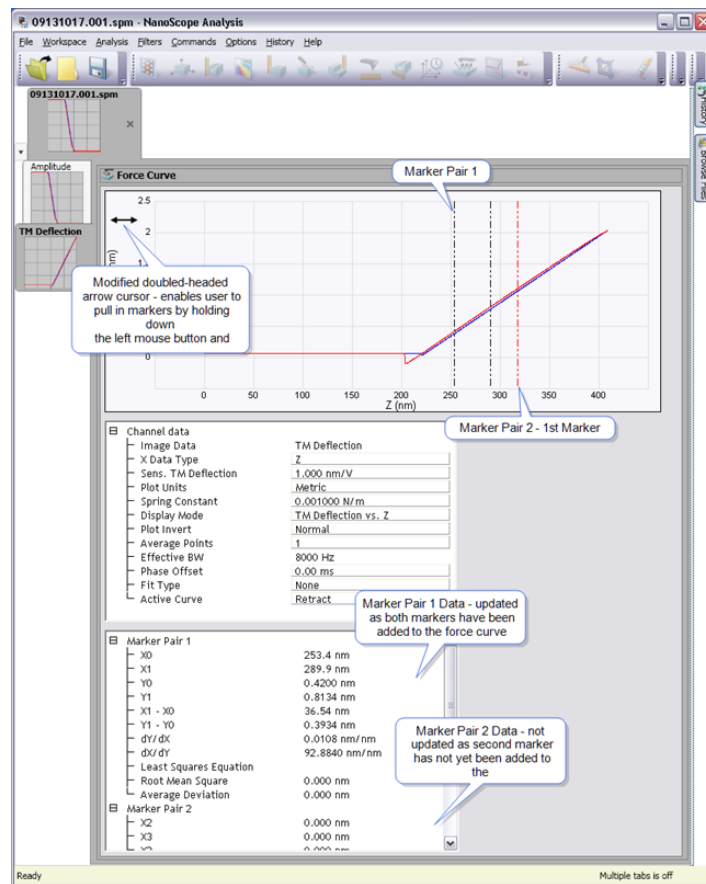

Figure 7.2b: Adding Markers to a Line Plot
- To add markers to the **Line Plot**, position the mouse in the **Line Plot** graph area to the left of the Y axis. The standard cursor will change to a double-headed cursor (see Figure 7.2b). When the *double-headed cursor* appears, left-click the mouse, and drag the cursor to the desired position on the **Line Plot**. The data for the position is automatically updated in the **Marker Pair Results** area.